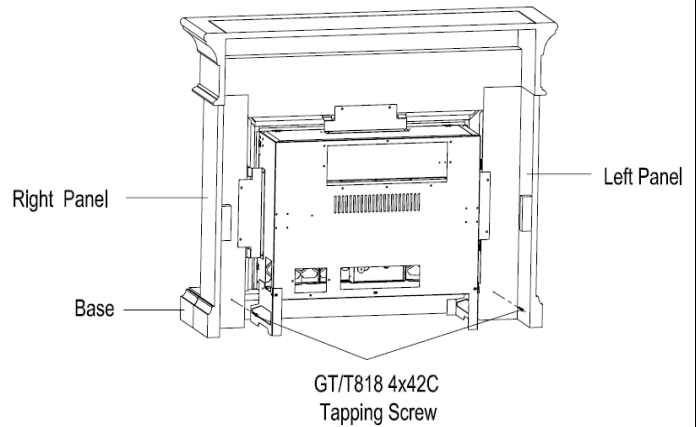

Figure 15
**STEP 2:** Base fix in left side panel and right side panel by two knob screws (42 mm Lengths). (Figure 15)